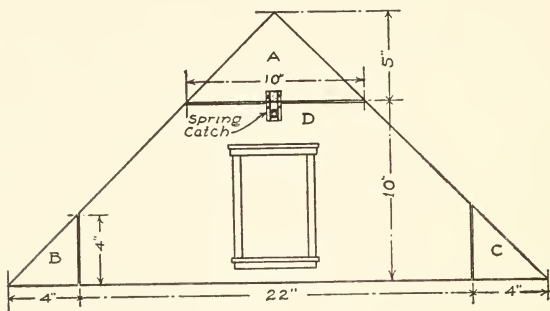

FIG. 233. — The Front Gable-End.
**The Gable-Ends.** The front gable-end consists of four pieces (*A*, *B*, *C*, and *D*, in Fig. 233), the dimensions for the cutting of which are given in the illustration. After preparing these, nail *A*, *B*, and *C* in their proper positions in the gable of the roof, and trim the edges of *D*, if they need it, to fit between. To prevent the movable section from pushing in too far, it will be necessary to nail a narrow